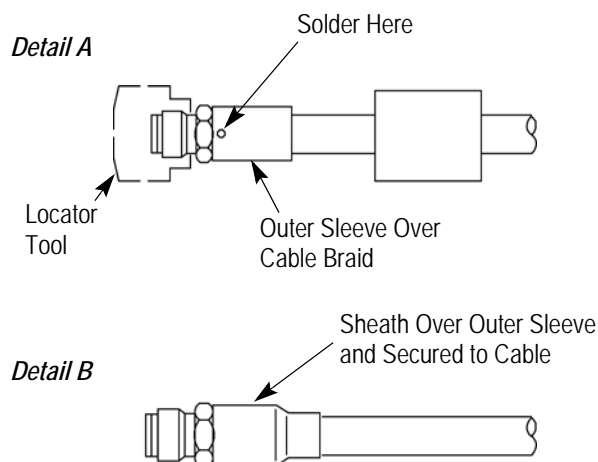

Figure 4
6. Slide the outer sleeve over the braid. Holding the cable in place, solder through the holes in the outer sleeve. Trim excess braid strands. Refer to Figure 4, Detail A.
7. Slide the sheath over the outer sleeve until the ends are aligned. Using a heat gun, apply indirect heat to the sheath until the sheath has shrunk and is secured to the cable. Refer to Figure 4, Detail B.